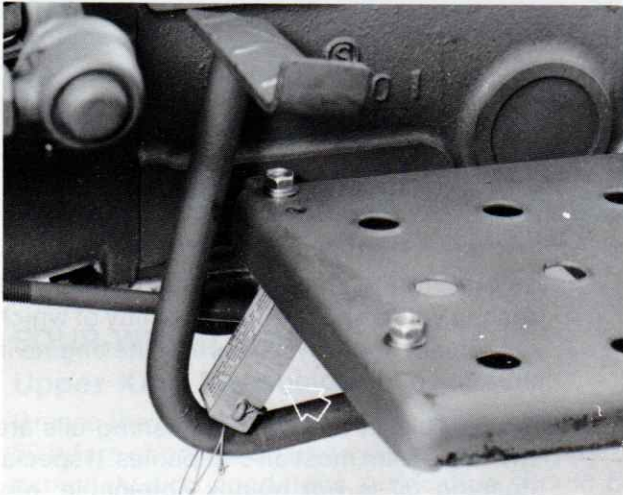

Figure 66 — Installing Pedal Spacer
10. Place the pedal spacer, Figure 66, between the clutch pedal and foot plate to separate the clutch disc from the flywheel.
5. Remove clutch pedal spacer, Figure 66.